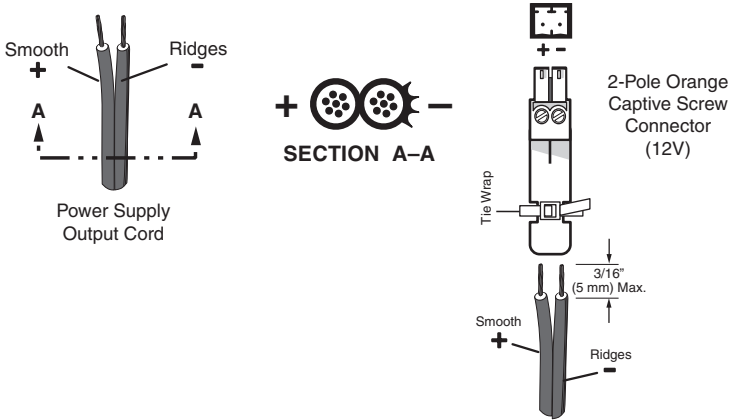

Figure 8 — Power connector wiring
2. Strip the jacket of the conductor wire (figure 8).
For optional rack mounting, mount up to four PS 124 power supplies on an RSU 129 9.5" 1U Universal Rack Shelf (part #60-190-01) (figure 8) or an RSB 129 9.5" 1U Basic Rack Shelf (part #60-604-01).